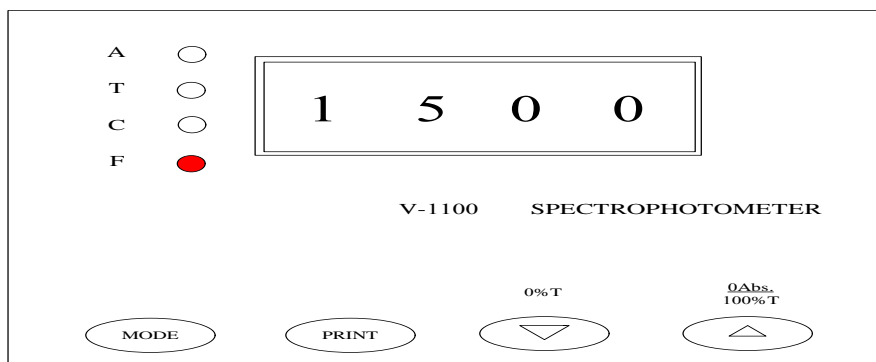

Fig.1-15
- b. If the current F value is 1000 , press the **Δ/0Abs/100%T** key, until it goes up to 1500. (Fig.1-15)